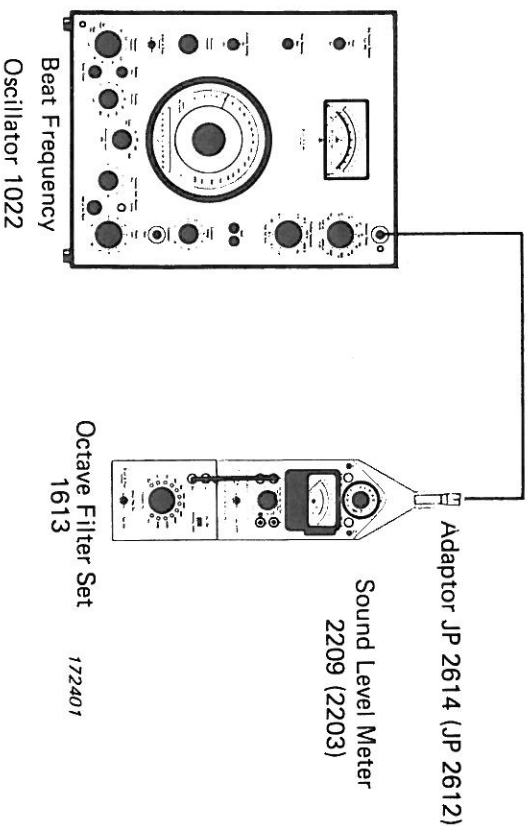

Fig.3.4. Arrangement for presetting the weighting potentiometers attenuation
3. Connect a signal source, such as a B & K Beat Frequency Oscillator Type 1022, to the Adaptor as shown in Fig.3.4.